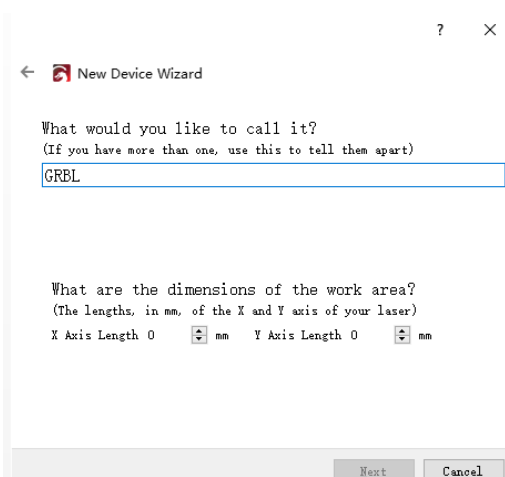

Figure 5.3. Device Name Size Setting
(3) Set the equipment name as the distinguishing engraving machine, and set the working area size of the engraving machine (Fig. 5.3)